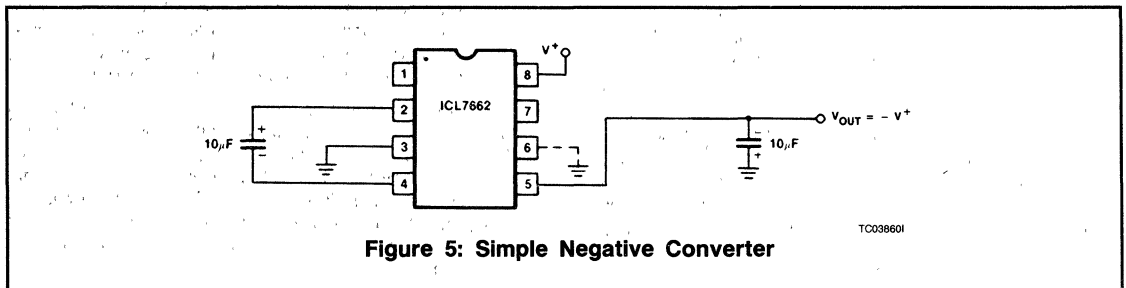
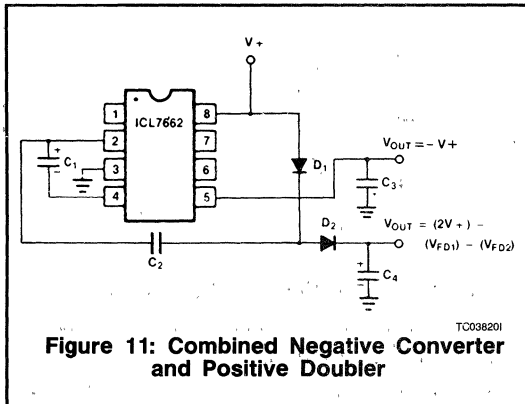

Figure 5: Simple Negative Converter
Figure 11: Combined Negative Converter and Positive Doubler
The majority of applications will undoubtedly utilize the ICL7662 for generation of negative supply voltages. Figure 5 shows typical connections to provide a negative supply where a positive supply of +4.5V to 20.0V is available. Keep in mind that pin 6 (LV) is tied to the supply negative (GND) for supply voltages below 11 volts.
The output characteristics of the circuit in Figure 5 are those of a nearly ideal voltage source in series with 65 ohms. Thus for a load current of -10mA and a supply voltage of +15 volts, the output voltage will be 14.35 volts. The dynamic output impedance due to the capacitor impedances is approximately $1/\omega C$, where:
Figure 11 combines the functions shown in Figures 5 and 10 to provide negative voltage conversion and positive voltage doubling simultaneously. This approach would be, for example, suitable for generating +9 volts and -5 volts from an existing +5 volt supply. In this instance capacitors C_1 and C_3 perform the pump and reservoir functions respectively for the generation of the negative voltage, while capacitors C_2 and C_4 are pump and reservoir respectively for the doubled positive voltage. There is a penalty in this configuration which combines both functions, however, in that the source impedances of the generated supplies will be somewhat higher due to the finite impedance of the common charge pump driver at pin 2 of the device.